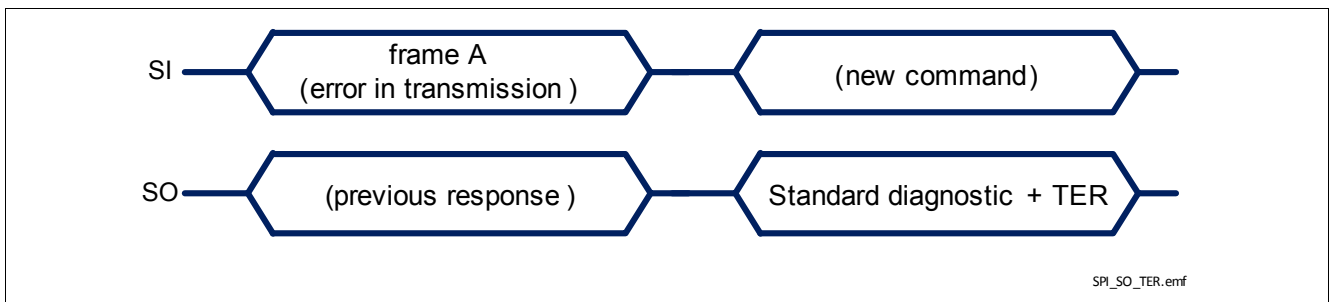

Figure 32 BTS54040-LBE response after an error in transmission
- in case an error in transmission happened during the previous frame (for instance, the clock pulses were not multiple of 8), shown in Figure 32